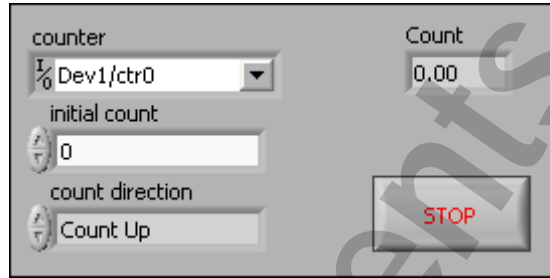

Figure 6-2. Simple Edge Counting VI Front Panel
3. Arrange the front panel controls as shown in Figure 6-2.